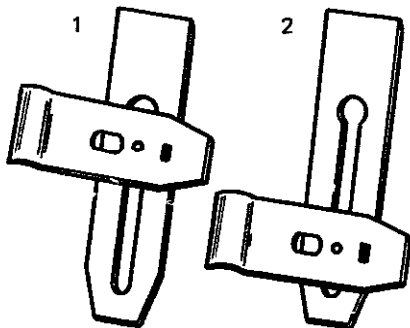

Fig. 8-15 Assembling the double plane iron (steps 1 and 2).
1. Lay the plane iron cap on the flat side of the plane iron as in step 1, figure 8-15, with the screw in the slot.
2. Draw the plane iron cap back to a point where it clears the cutting edge when revolved into place. See step 2, figure 8-15.